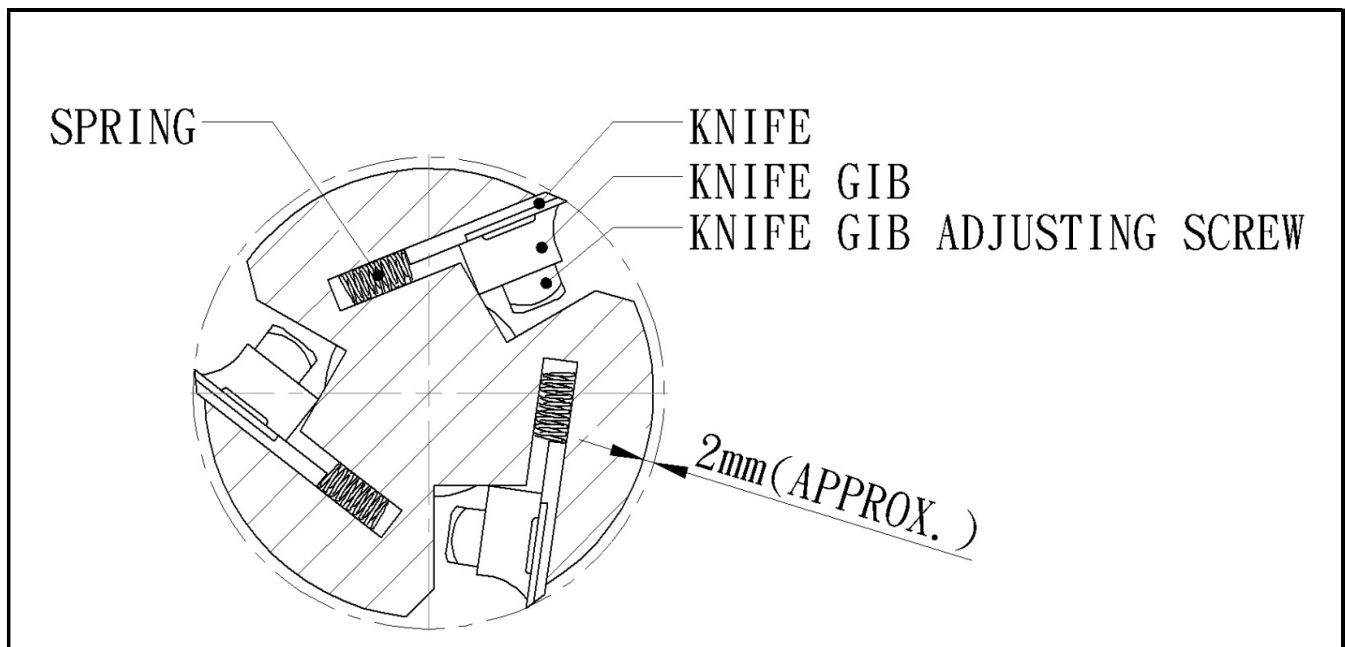

Fig. 8
- C. With the knife and gib against each other and the concave shaped surface of the gib up, insert into the slot. The back edge of the knife bevel should be slightly below the outside diameter of the cutterhead. Lightly tighten the two outside and center gib screw. (Fig. 8)